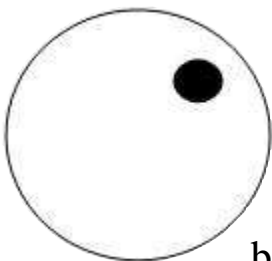

Figure 11
Step 11: Put tape on the hole at the top of the laser head (figure 11), momentarily push the test switch to get a burn spot. The spot should be near the center of the hole.